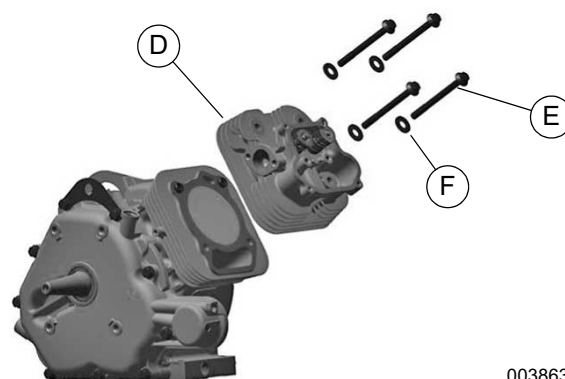

Figure 14-42. Install Cylinder Head
2. Install head gasket (C) on cylinder head surface. Verify gasket is seated correctly and aligned with dowels and holes in crankcase.
3. See Figure 14-42. Install cylinder head assembly (D) on crankcase using four cylinder head bolts (E) and cylinder head bolt washers (F).